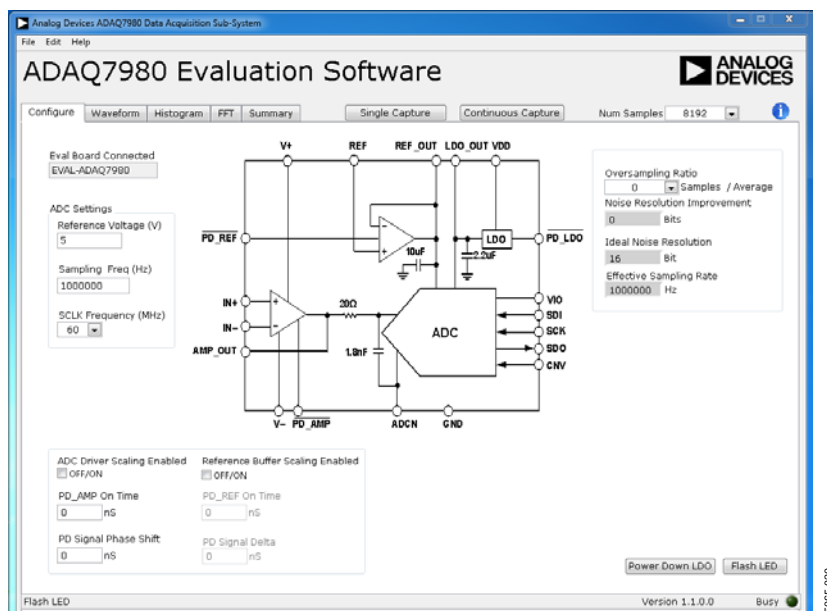

Figure 22. GUI Main Window
4. After the EVAL-ADAQ7980SDZ is detected, the main window of the software appears (see Figure 22), showing that the EVAL-ADAQ7980SDZ is connected.
The main window of the software is shown in Figure 22. The following section describes the various controls that are accessible via this window.